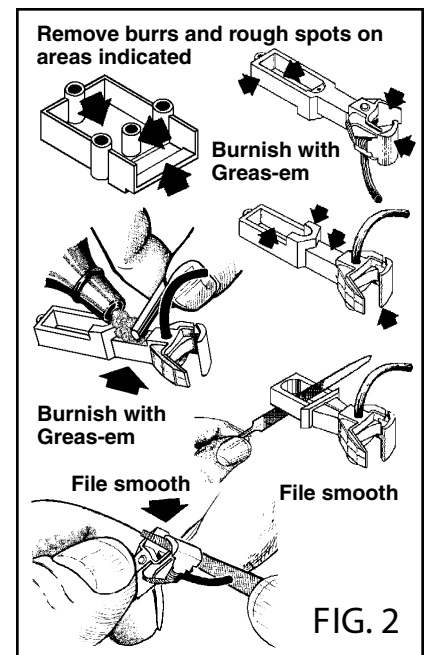

FIG. 2
- IMPORTANT: Before** assembling Couplers, check areas shown with arrows in **Fig.2** for burrs and rough spots - remove with a fine file.
- Burnish the arrow marked surfaces shown in **Fig.2** with Kadee® #231 *Greas-em* (a fine dry graphite lubricant especially suited for Kadee® Couplers). Place coupler parts in small plastic bag with #231 *Greas-em* and shake contents to coat parts before assembling.